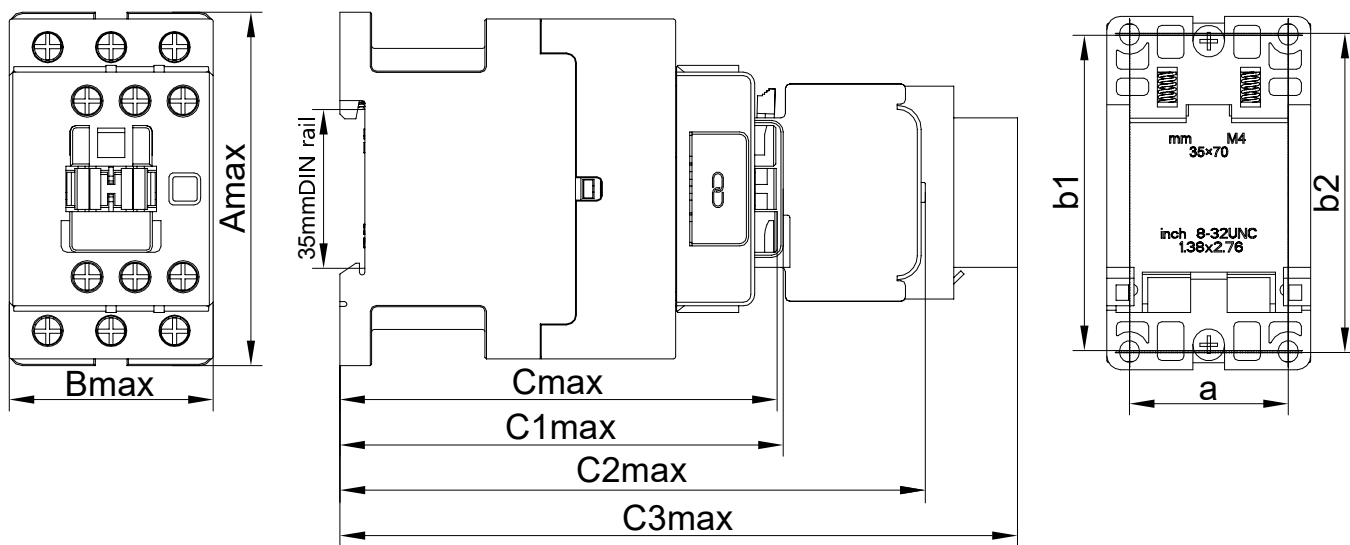
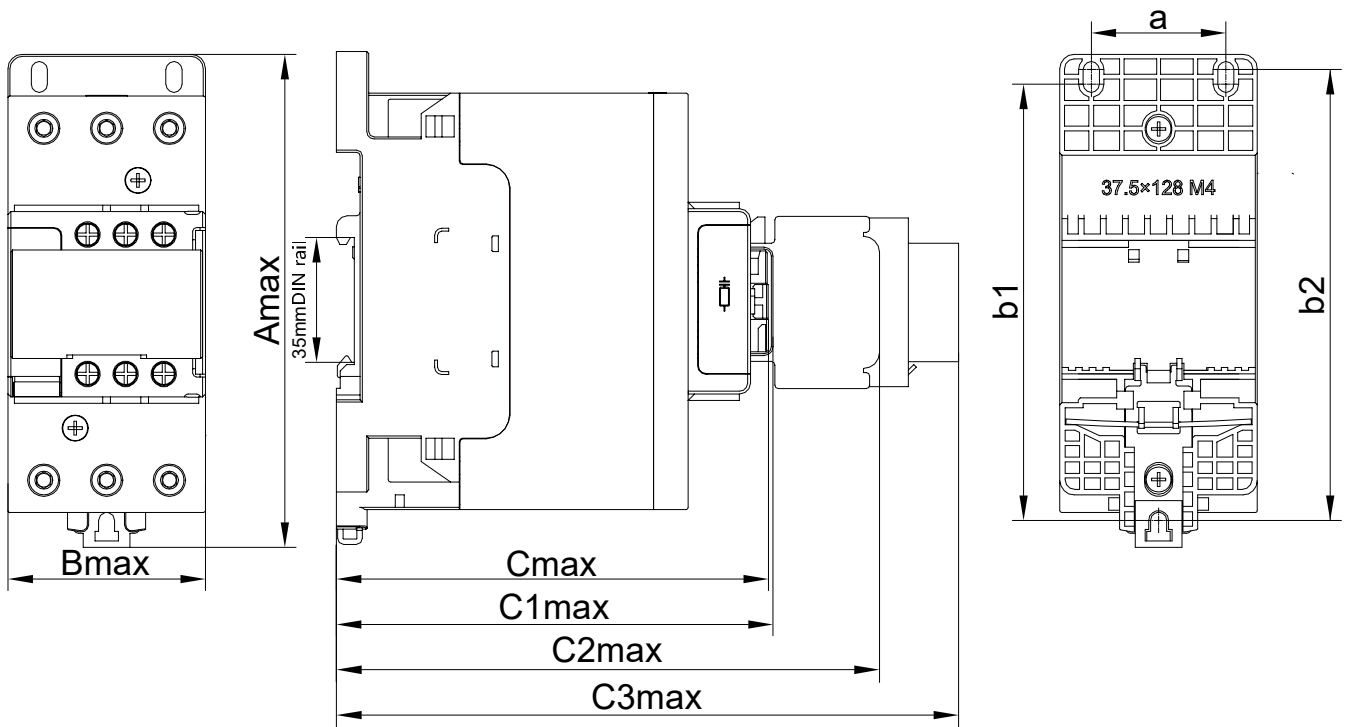
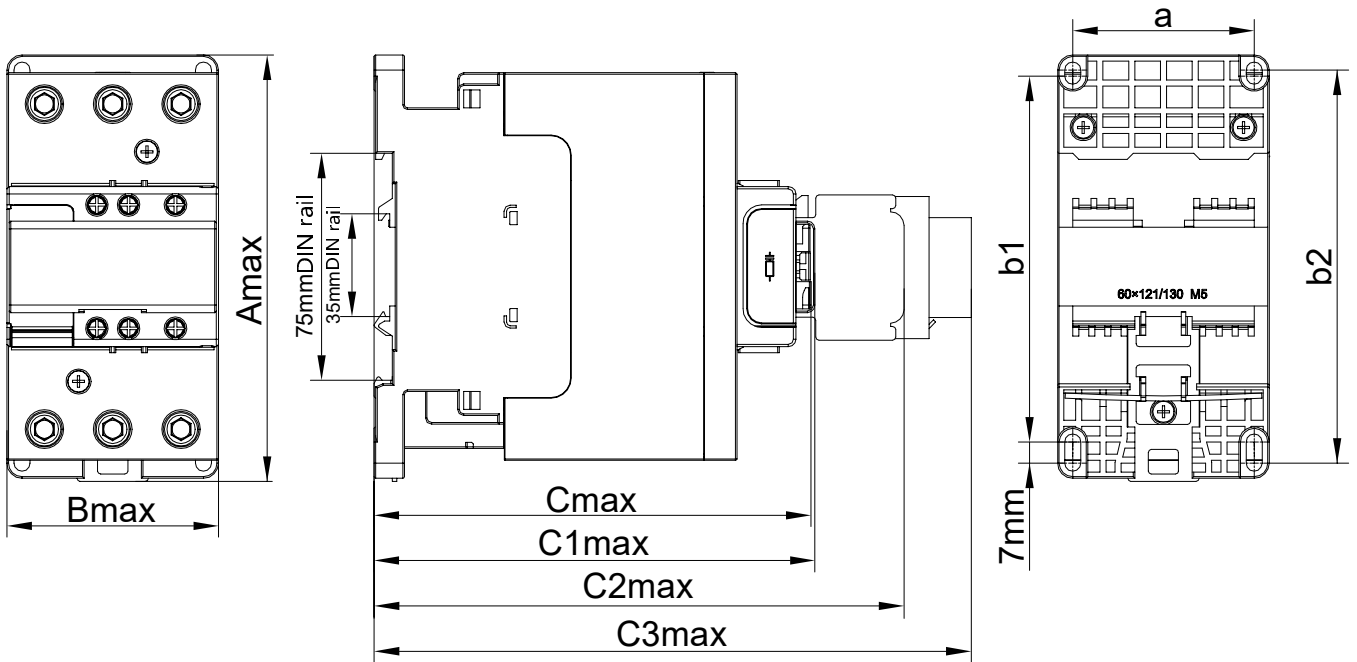

Fig. 7 HDCX-09~38 DC
Fig. 8 HDCX-40~65 DC
Fig. 9 HDCX-80~95 DC
- The contactor overall installation dimensions are shown in Figure 7, Figure 8, Figure 9 and Table 3.